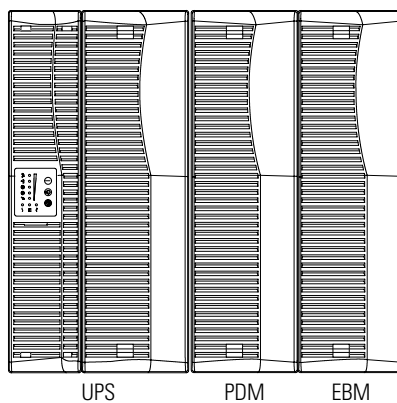

Figure 4. Tower PDM Configuration
1. Carefully position the cabinets upright (see Figure 4).
NOTE The PDM must be installed to the right of the UPS (between the UPS and EBM) as shown in Figure 4.